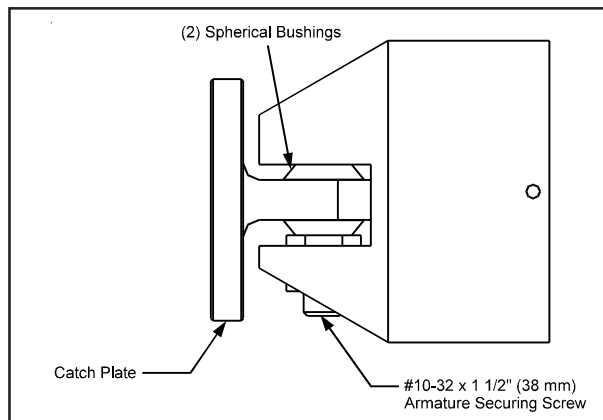

Figure 1. Armature Base Assembly
- a. Remove the #10-32 x 1 1/2" (38 mm) armature securing screw and remove the catch plate from the armature base (Figure 1).
- c. Insert the extension rod into the armature base and secure with #10-32 x 1 1/2" (38 mm) armature securing screw (Figures 1 - 3).